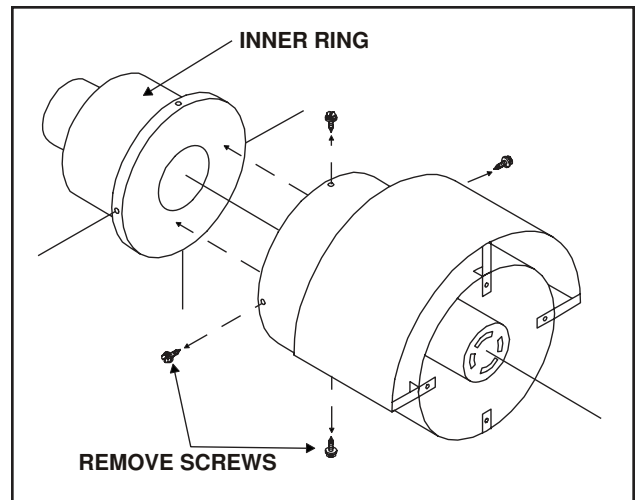

Figure 11.
- E. Remove the sheetmetal screws from the 10-1/2 in. diameter pipe and remove the inner ring from inside the collar. See Figure 11.